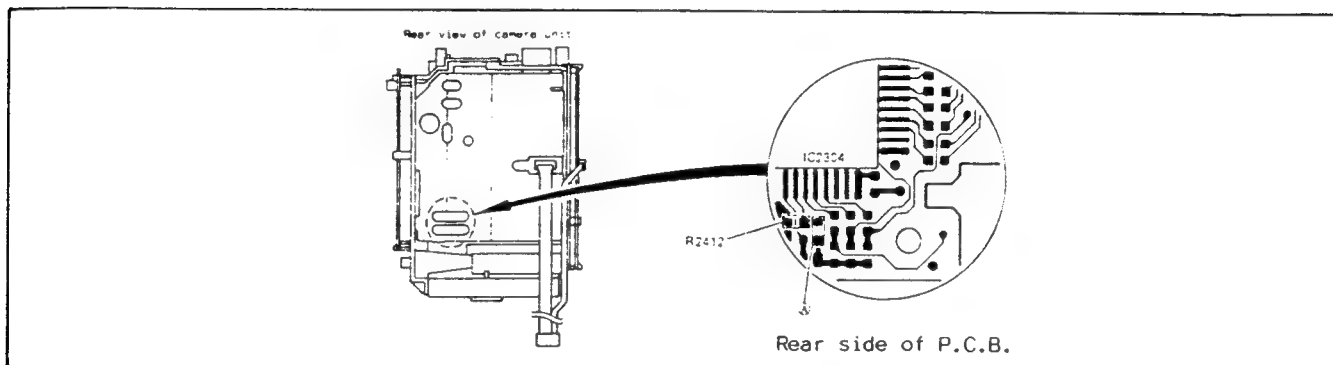

Fig. II-3 Setting for manual adjustment
2) Remove the PROCESS (2) P.C.B.
4) Reconnect the PROCESS (2) P.C.B., and reassemble other sections to set the condition shown in the Fig. II-3.